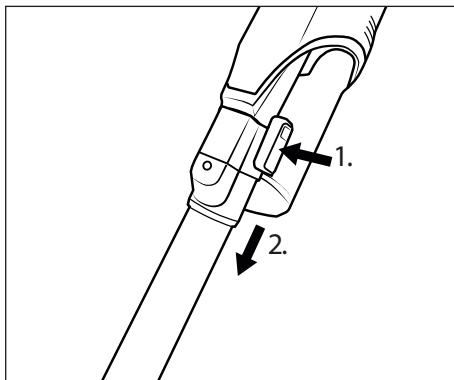

Fig. 11
- ◆ To remove the suction pipe 24 from the appliance, hold down the suction pipe release button 25 and pull the suction pipe 24 off the suction opening of the appliance (see Fig. 11).